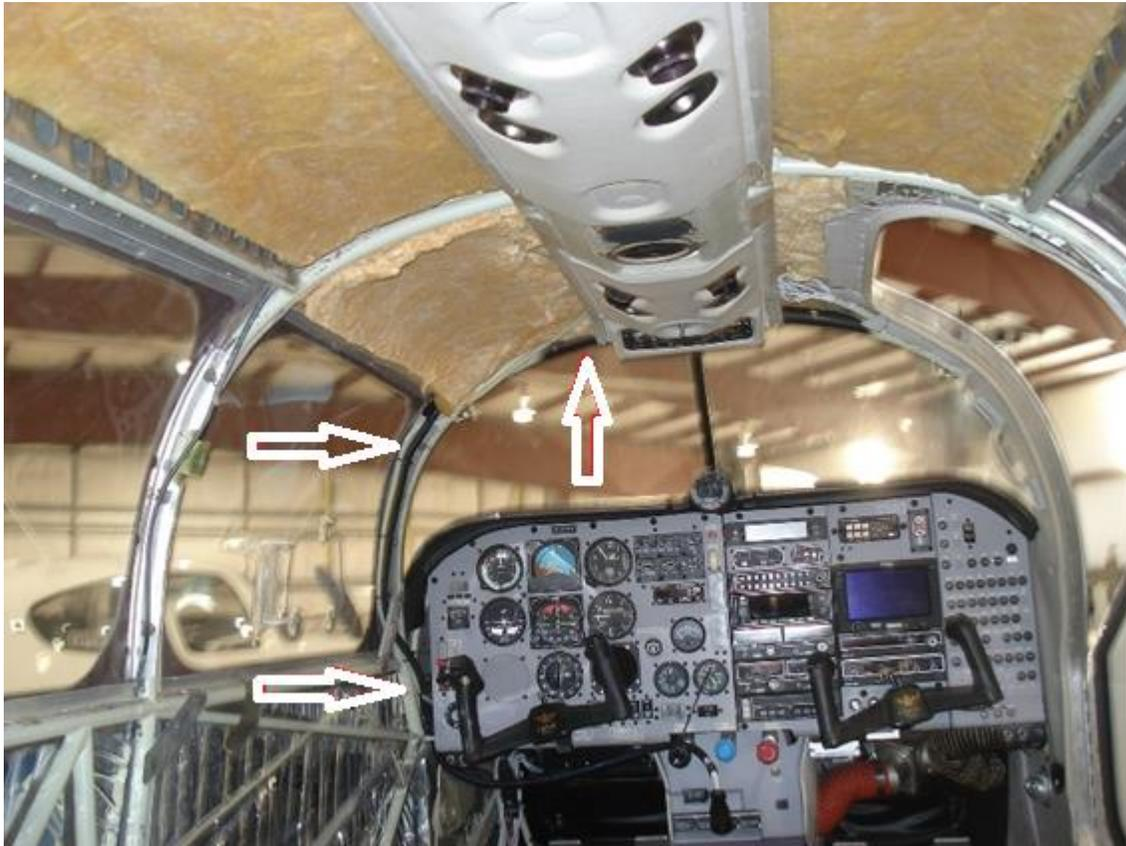

Figure 22 – Climate Control Extension Harness Routing
- A. Route the harness behind the instrument panel to the pilot's side, up the front window pillar. See Figure 22.
- B. Then back to the center support along the top front window structure. See Figure 22.